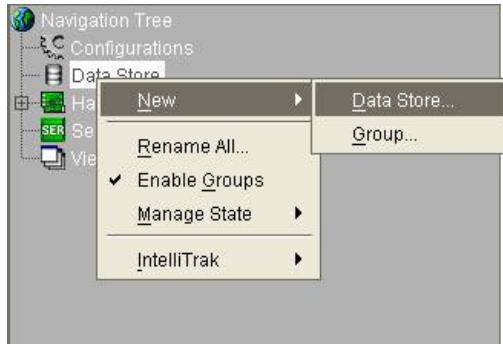

Figure 3-3: Navigation Tree
6. Under the Navigation Tree, right-click on the Data Store item and select ‘New’ (as shown below in Figure 3-3).